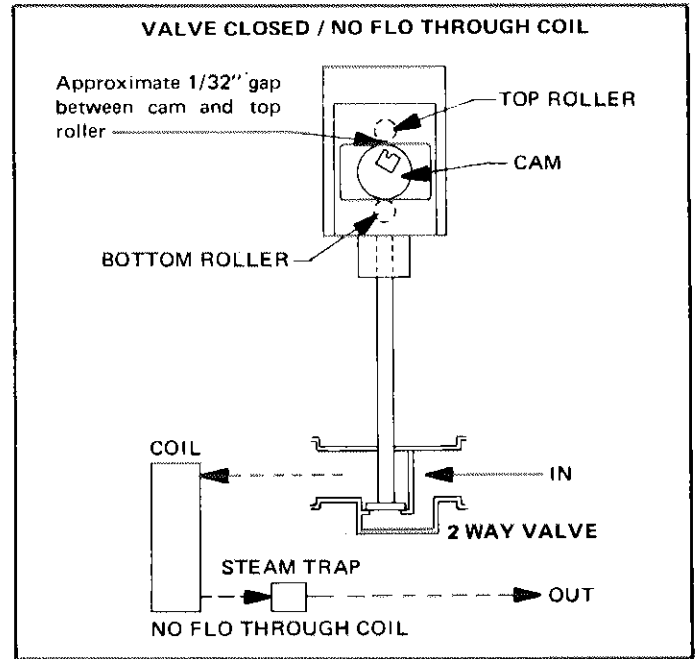

FIGURE 57
- 2 - Remove wire from terminal #1 on A7 to motor valve. Put jumper across C and F terminals on motor. Motor shaft should rotate counter clockwise, lowering valve stem. Refer to Figure 57.